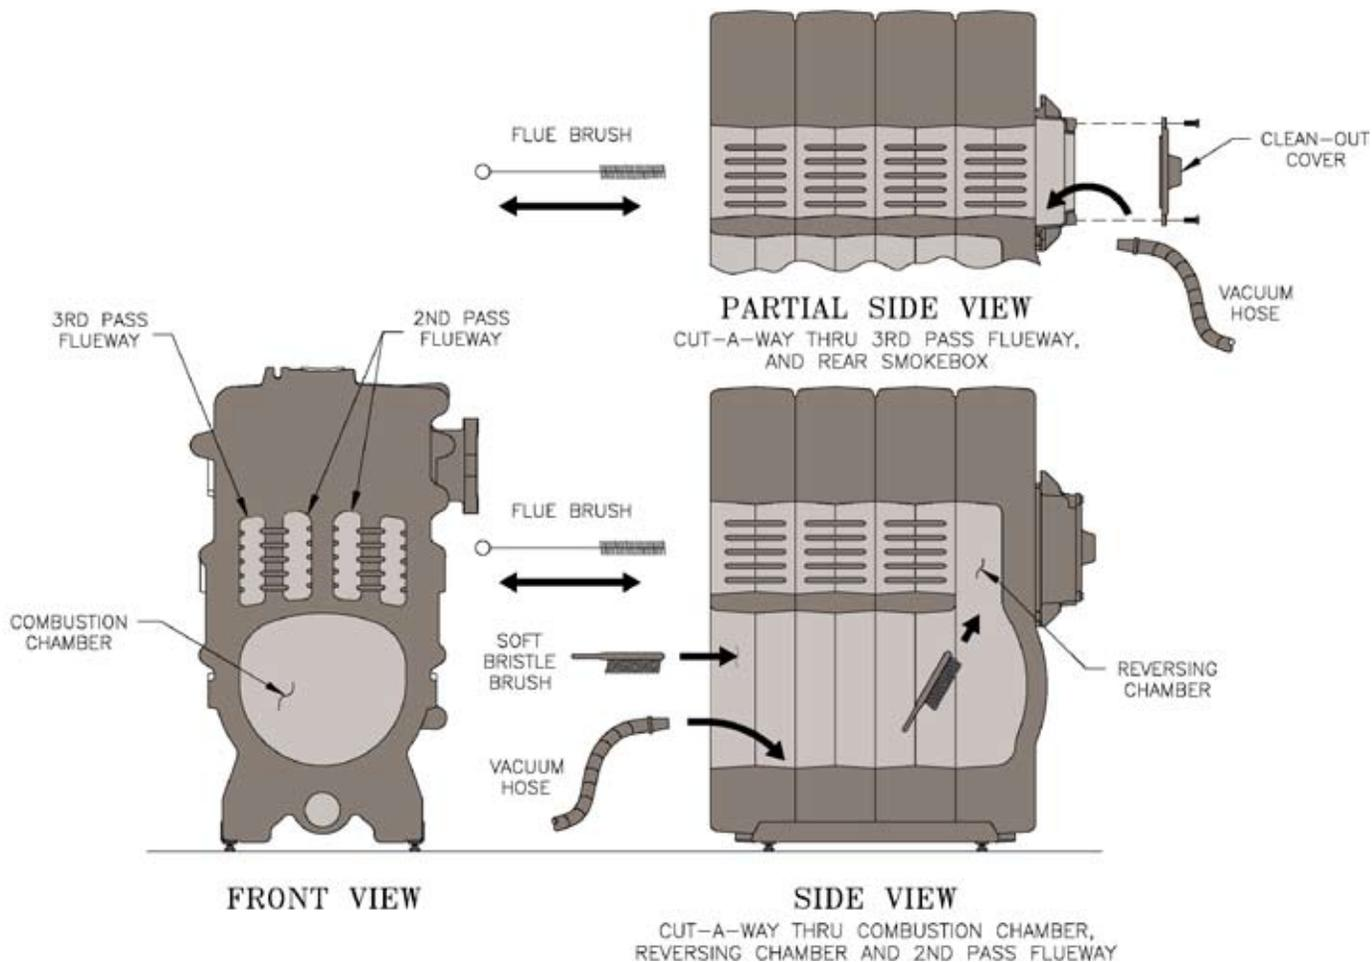

Figure 27: Cleaning Boiler Flueways and Combustion Chamber Surfaces
A. CLEAN THE FLUEWAYS (See Figure 27).
1. For access to the combustion chamber remove the two (2) 3/8" - 16 cap screws. If boiler is equipped with flexible fuel line(s), swing door open.